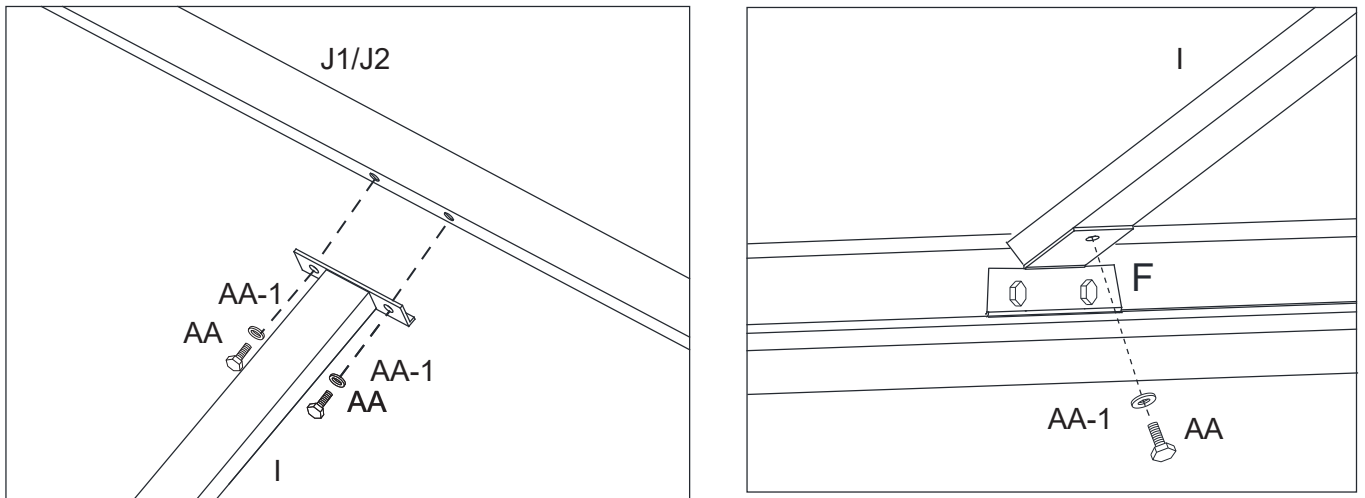

Figure 9-1
9.1 Attach the Main Roof Vertical Center Supports (I) to the Main Roof Center Frame (J1/J2) and the Lintel Brackets (F) using Bolts (AA) and Steel washer (AA-1). Hand Tighten Only. See Figure 9-1.